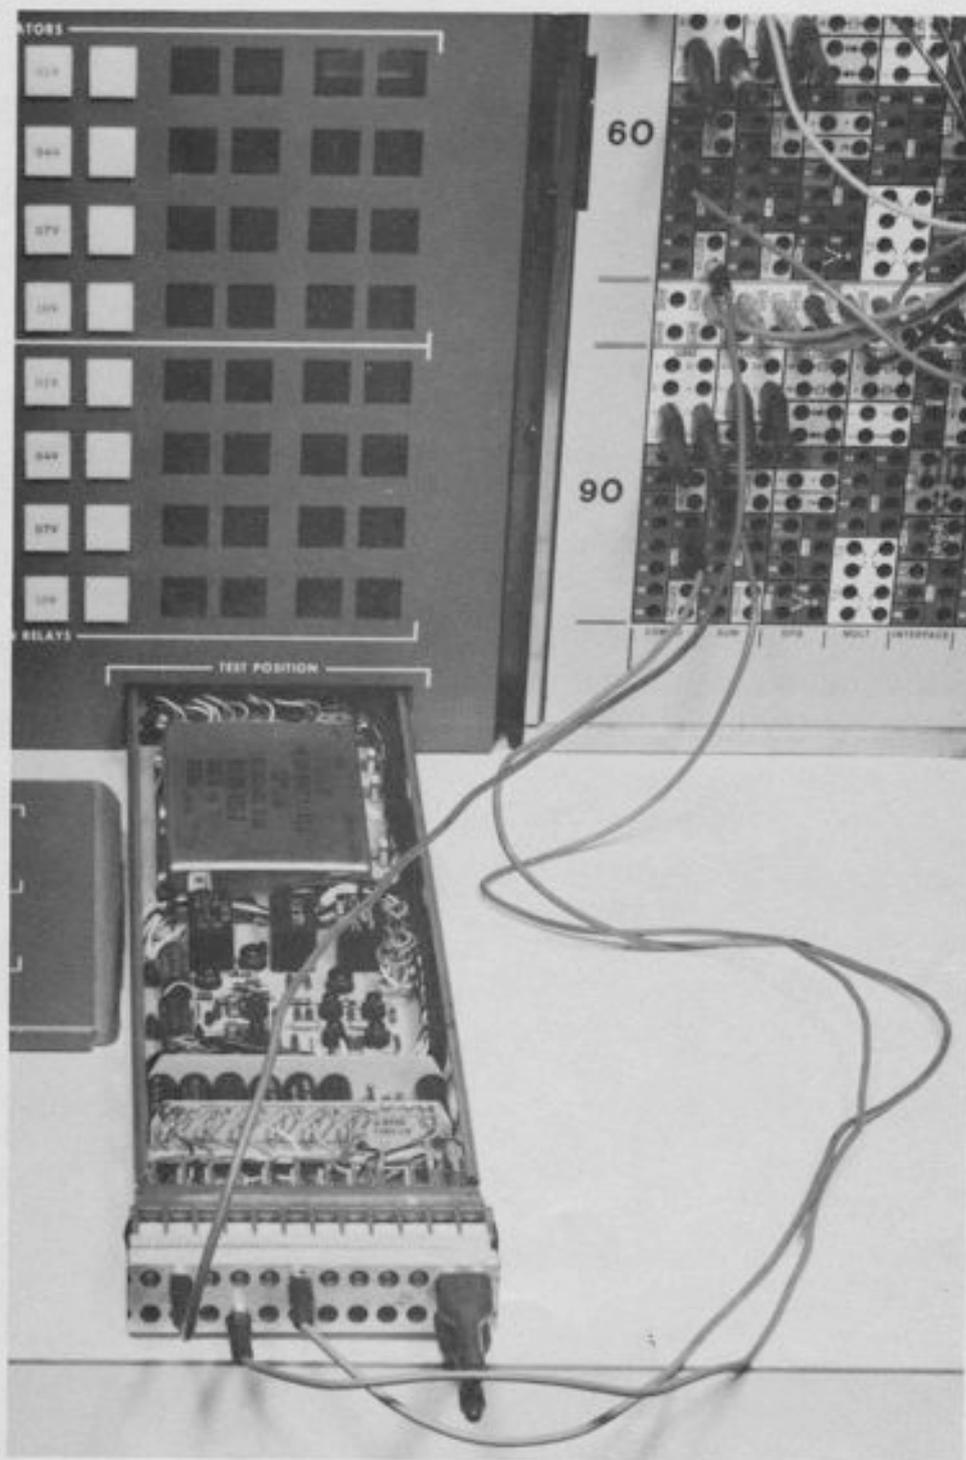

Figure 2.5. A Combination Amplifier in the Test Position
2.7 THE TEST POSITION (See Figure 2.5)